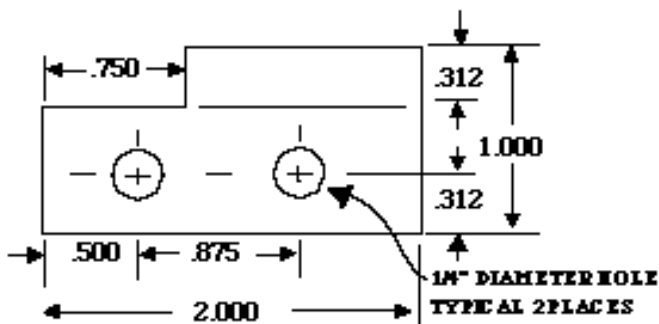

Figure 2
1. On vehicles with cruise control, a bracket must be made to move the cruise control clamp. This ensures proper clamping of control cable. See Figure 2.